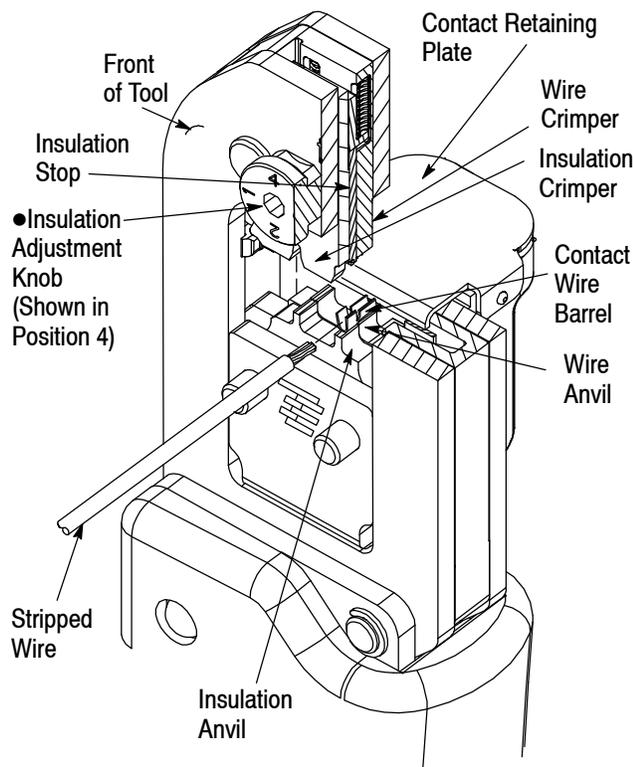

Figure 1
The tool features a fixed die (crimper), a movable die (anvil), an insulation stop, a CERTI-CRIMP hand crimping tool ratchet control, and a flip locator. Many tools feature an insulation adjustment knob which is used to regulate the crimp height of the contact insulation barrel during the crimping operation. See "INSULATION ADJUSTMENT PROCEDURE" in this instruction sheet for details on the use of the adjustment knob. The flip locator is a feature used to precisely locate the contact in the crimp tooling. The insulation stop will limit the insertion distance of the stripped wire into the contact. In use, the insulation stop rests in the slot of the contact. (See Figures 1 and 3.) The CERTI-CRIMP hand crimping tool ratchet control ensures full crimping of the contact. Once engaged, the ratchet will not release until the dies have been fully closed.
On many tools, the insulation barrel crimp height is regulated by the insulation adjustment knob (Figure 1). The insulation crimp should hold the insulation firmly without cutting into the insulation. To determine the proper insulation crimp setting, test crimp a loose piece contact using the setting which corresponds to the insulation diameter: (1) -- small; (2) and (3) -- medium; or (4) -- large. If the crimped insulation barrel is too tight or loose, change the setting by pulling out and rotating the adjustment knob to the desired setting.
5. Check the clearance between the bottoming surfaces of the wire crimper and the wire anvil. See Figure 1. If the clearance is 0.025 mm [.001 in.] or less (on at least two of the bottoming surfaces), the ratchet is satisfactory. If clearance exceeds 0.025 mm [.001 in.], the ratchet is out of adjustment and must be repaired. See Section 5.